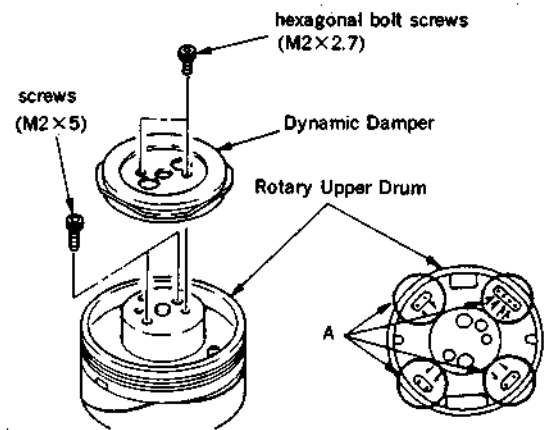
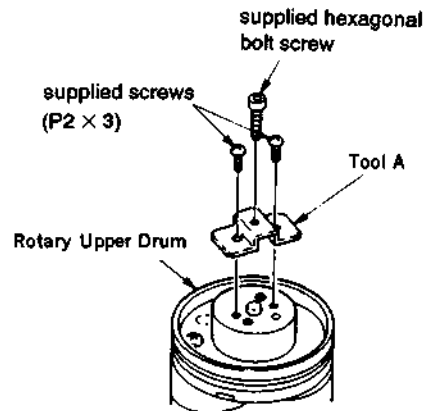

Fig. 1
Fig. 2
- (1) Open the MB-19 Board referring to Section 2-8.
- (2) Remove the Fly Wheel referring to Section 7-2-1.
- (3) Remove the two screws (M2 X 2.7) and remove the Dynamic Damper.
- (4) Unsolder the ten terminals at A positions. Check that the terminals which are projected out from the PC Board move freely with a pair of tweezers, etc. (fig. 1)
- (5) Remove the two screws (M2 X 5).
- (6) Install the tool A to the two screw holes of installing the Dynamic Damper with the two accessory supplied screws. Thread the accessory supplied hexagon screw into the center hole of the tool A, and remove the Rotary Upper Drum. (fig. 2)